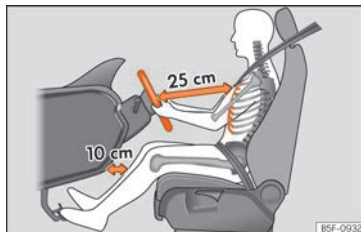

Fig. 7 The correct distance between the driver and the steering wheel must be at least 25 cm (10 inches).
- Move the steering wheel so it is at least 25 cm (10 inches) away from the sternum »» Fig. 7 and you can hold it with both hands on both sides, on the outer part, with your arms slightly bent.
- Move the seat in such a way that you can step on the pedals with your knees slightly bent and with a distance between the knees and the dashboard of at least 10 cm (4 inches) »» Fig. 7.